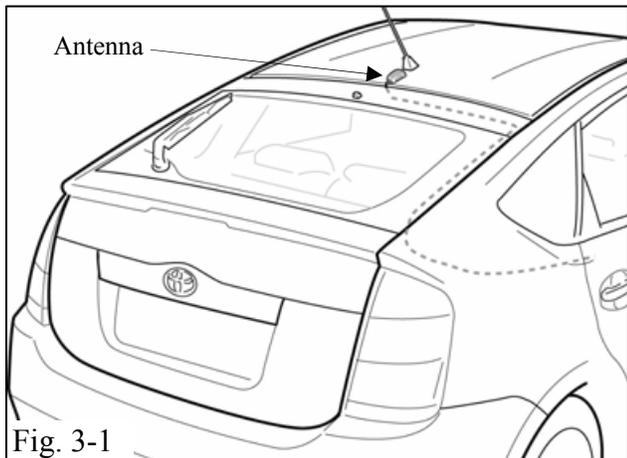

Fig. 3-1
(a) Center the antenna directly behind the radio antenna in the center of the roof as shown. (Fig. 3-1 & 3-2)
(1) Remove the protective cover from the bottom of the antenna and place the antenna in position as shown. (Fig. 3-1)